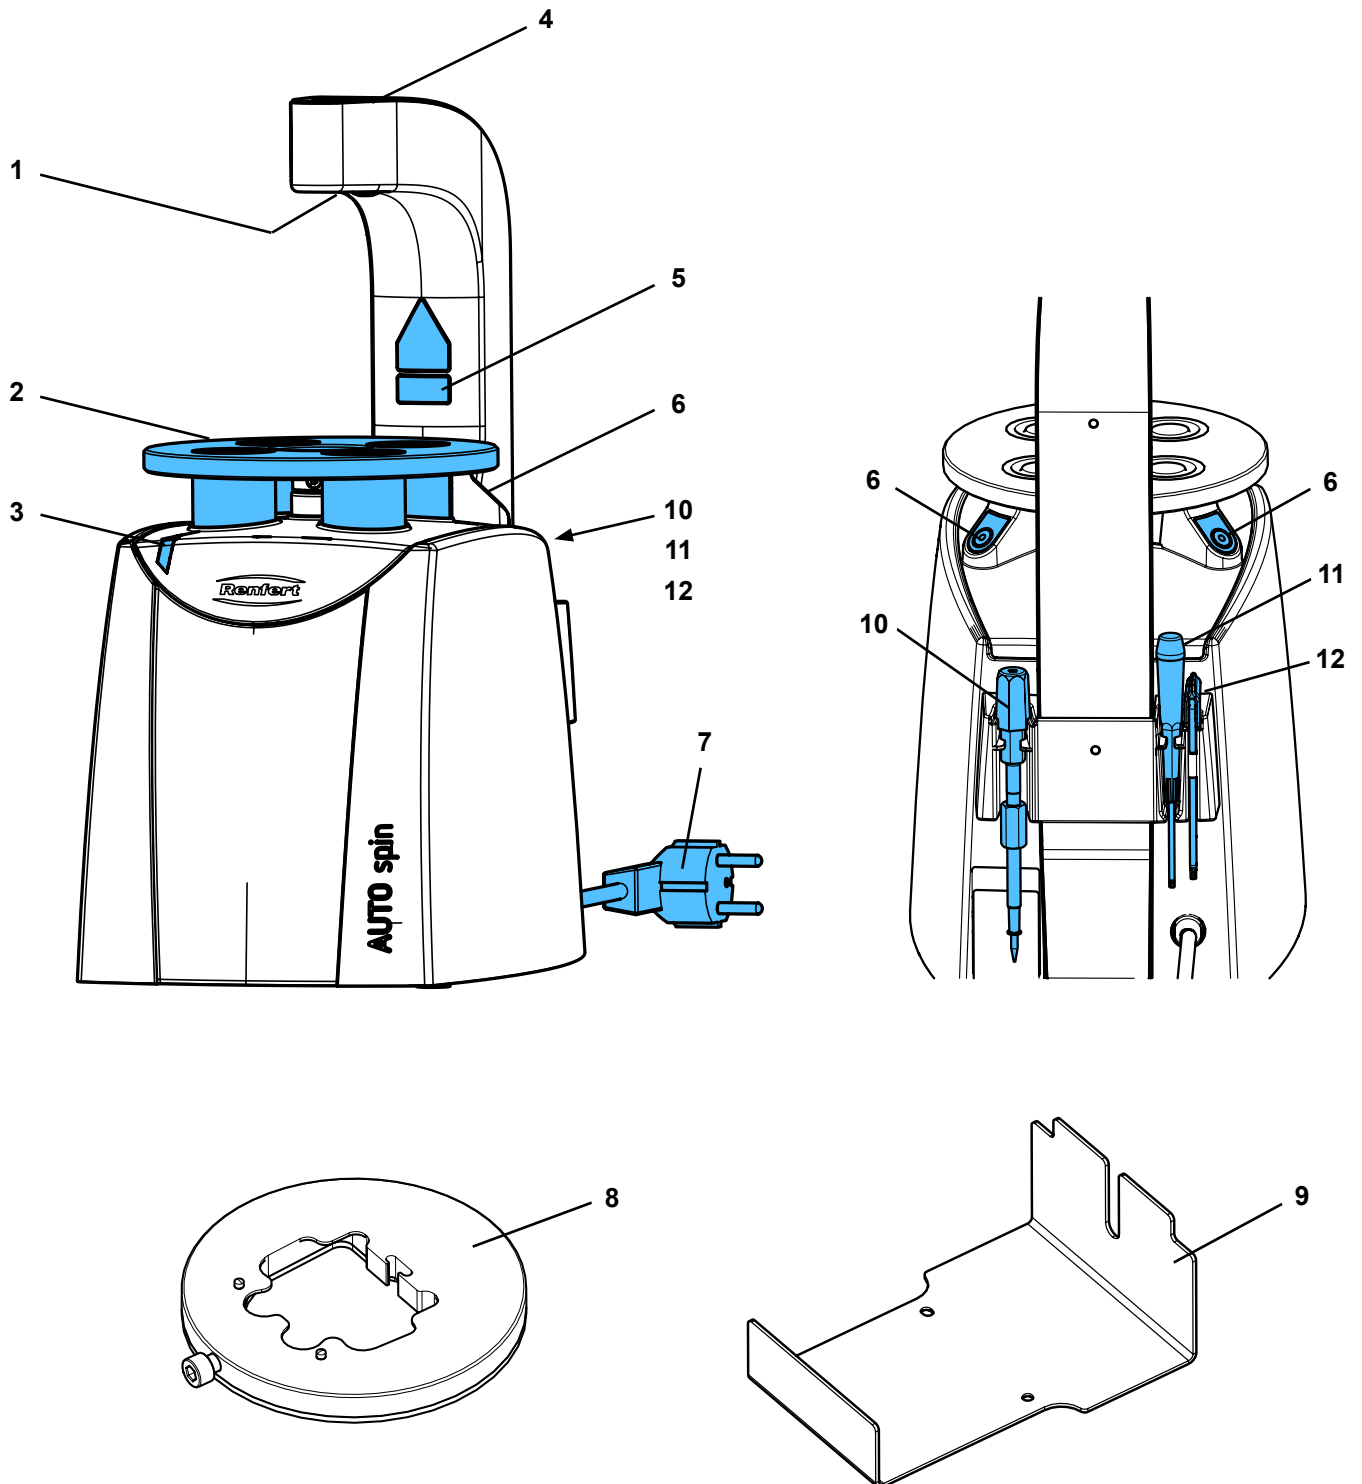

Fig. 1
- ⇒ Remove the laser warning in your language from the sticker set and cover over the existing warning label (5, Fig. 1).
- ◆ The operating indicator (3, Fig. 1) flashes.
- ⇒ Press and hold both operating keys (6, Fig. 1).
- ◆ The operating indicator (3, Fig. 1) lights up.
- ◆ The target laser (1, Fig. 1) lights up.
⇒ Press both operating keys (6, Fig. 1) simultaneously to initiate the drilling process.